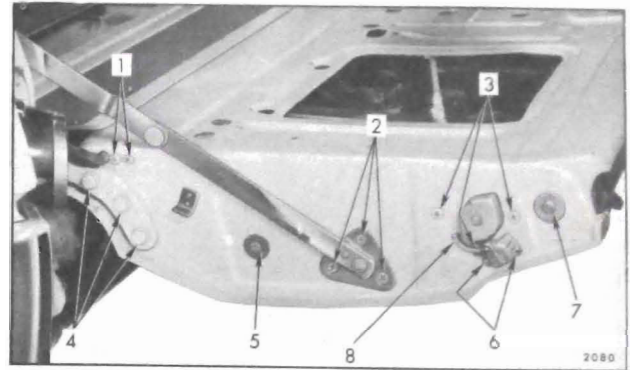
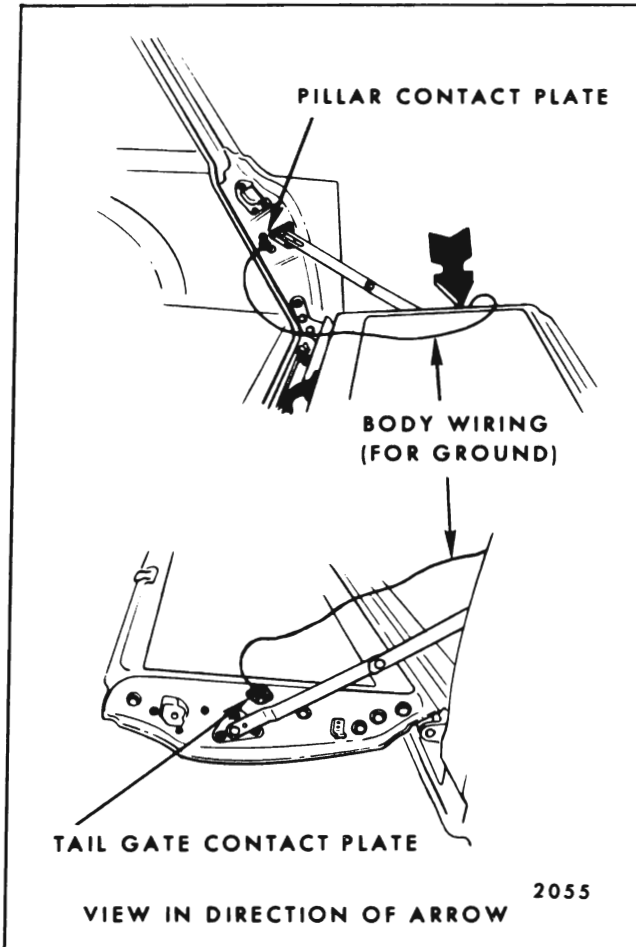

Fig. 9-5—Tail Gate Hardware - Left Side
Fig. 9-11—"X" Body Tail Gate Jamb Switch
4. While properly supporting tail gate, remove right and left support to gate attaching screws and fold supports against body. (See Fig. 9-5).
5. With the aid of a helper, remove right and left tail gate hinge to gate attaching bolts and remove tail gate from body. (See Fig. 9-5).
NOTE: On styles equipped with power operated tail gate windows, engage jamb switch and operate window to any position desired. Engaging the tail gate jamb switch, makes it possible to operate the window (by key switch) with gate in the lowered position. This jamb switch is located on the left side of the tail gate on "B" Bodies and the right side for "A & X" Bodies. "B & A" Bodies have a switch of similar design that can be engaged by merely pushing arm with a finger. (See Fig. 9-5). On "X" Bodies, however, the jamb switch consists of two contact plates, one on gate and one on body pillar. These plates can be engaged with gate open by connecting them with a length of body wire. (See Fig. 9-11).
2. Remove bolts securing run channel(s) to tail gate. (See Fig. 9-5).